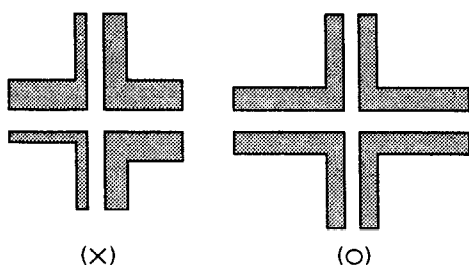

Fig. 6
- 12) Adjust the two-pole magnet so that amount of halation is equal in the right, left, up and down. (Fig. 6)